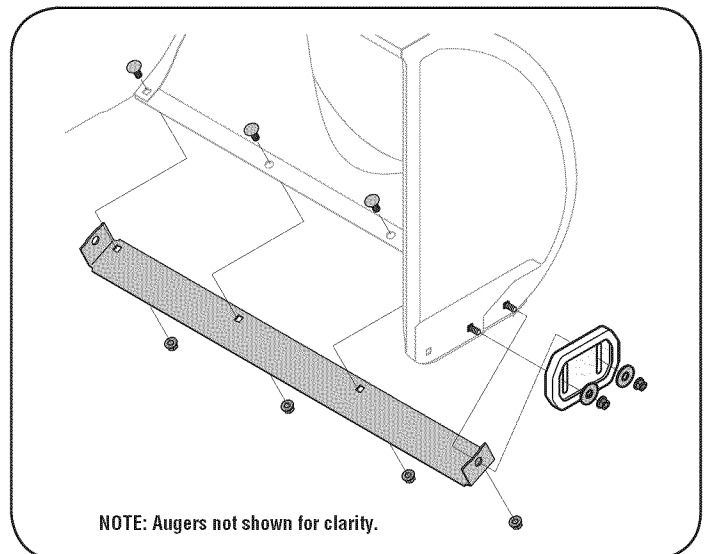

Figure 20
2. Reassemble new skid shoes with the four carriage bolts (two on each side), washers, and hex flange nuts. Refer to Figure 20.
2. Reassemble new shave plate, making sure heads of carriage bolts are to the inside of housing. Tighten securely. See Figure 20.